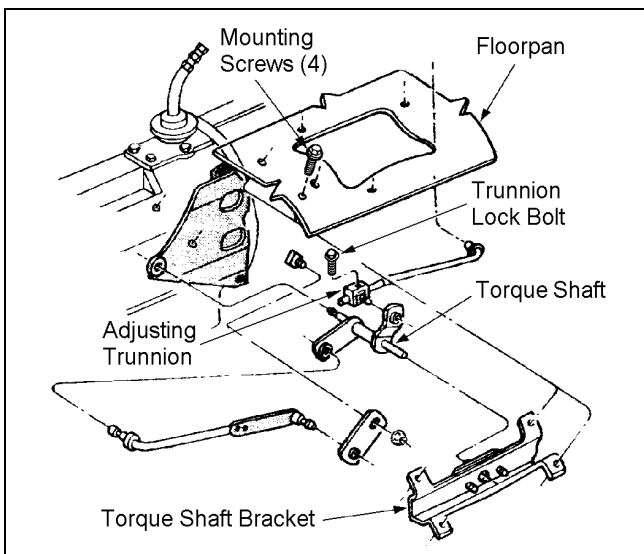

Figure 20
- 2)  Remove the four screws that attach the torque shaft bracket to the floor pan. See figure 20.
- 5)  Using bracket 176090 as a template, mark the two mounting holes locations on the torque shaft bracket. See figure 20. Drill a 9/32" hole at each location.